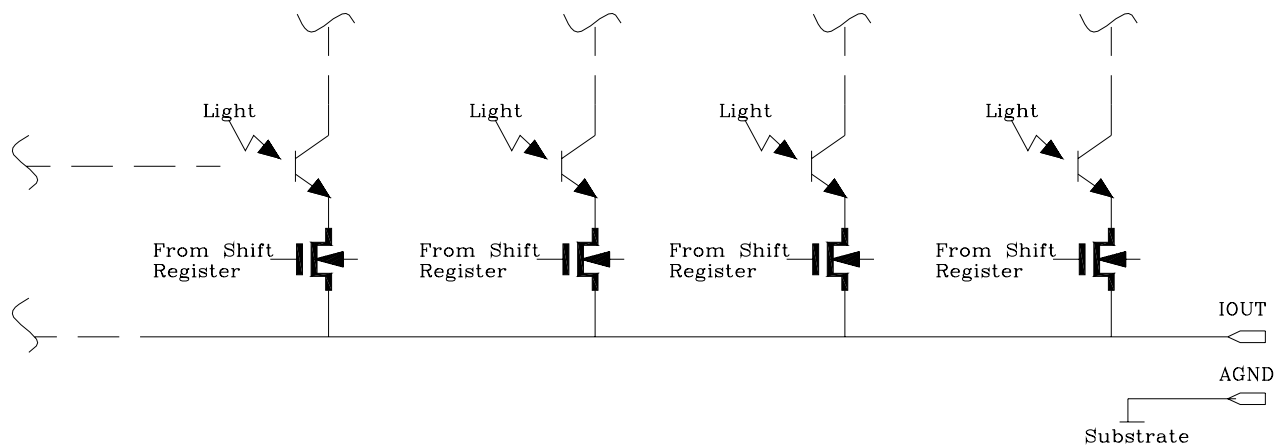
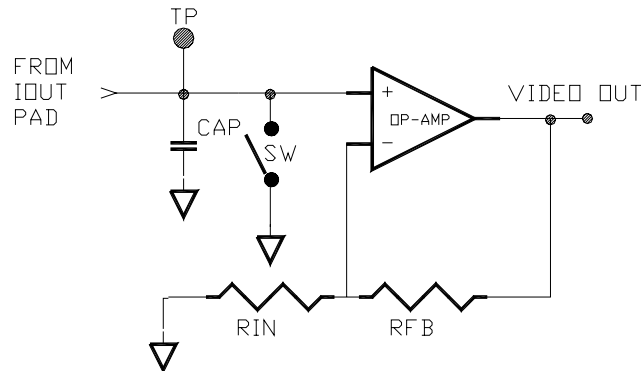
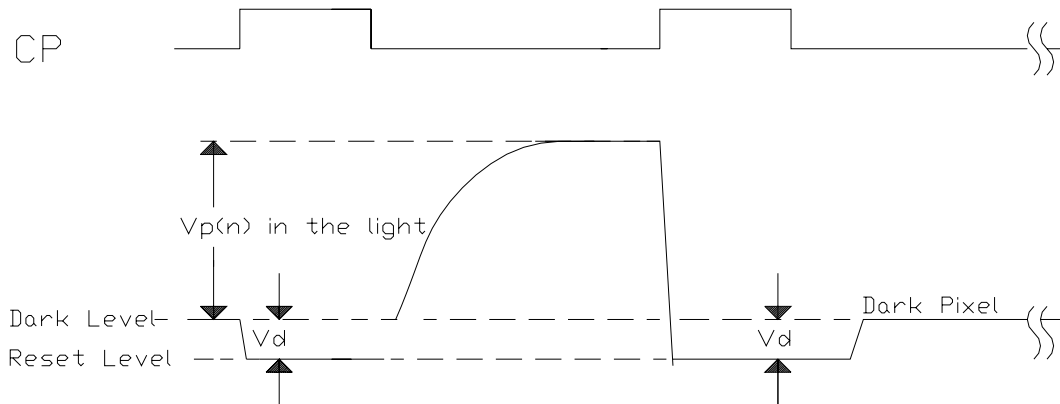
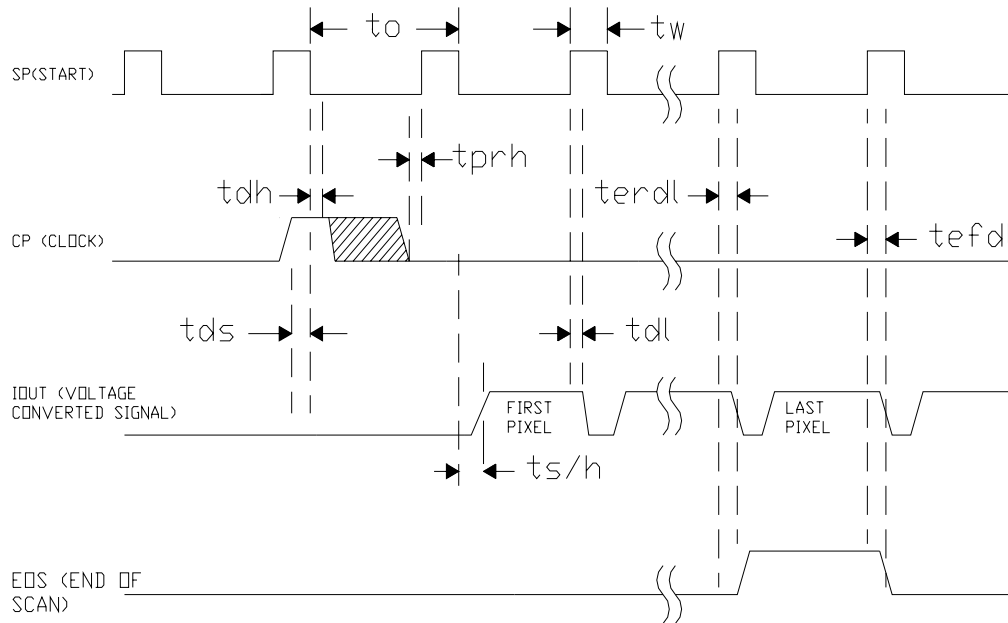

Figure 4. Video Pixel Output Structures
Figure 5. Video Output Test and Application Circuit
Figure 6. Single Pixel Video Output
Figure 8. Timing Diagram Of The PI3033B Sensor
Where  $V_p(n)$  is the amplitude of nth pixel in the sensor chip and  $N_{pixels}$  is the total number of pixels in sensor chip.  $V_{pavg}$  is converted from impulse current video pixel into a voltage output. See Figure 4, Video Pixel Output in section Output Circuit Of The Image Sensor and Figure 5, Video Output Test and Application Circuit in section Signal Conversion Circuit on page 6 and 7.
Exp = LP x Tint, where LP is light power (Yellow-Green) and Tint is as defined above. See Figure 6, Vpavg Output versus Light Exposure in section Video Output Response Under Exposure, on page 8.
The video signal from each photo-site is connected to a common video line on the sensor. Each photo-site is composed of a phototransistor with a series MOS switch connecting its emitter to a common video line. The video line is connected to the pad labeled IOUT. The photo-sensing element is the base of the phototransistor where it detects and converts the light energy to proportional charges and stores them in its base capacitance. When the MOS switch is activated, the emitter is connected to the video line and acts as source follower, producing an impulse current proportional to the stored charges in the base. This current is a discrete-time analog signal output called the video pixel. Accordingly the video pixel is proportional to the light energy impinging in the neighborhood of its photo-sites. Figure 4, Video Pixel Output Structures, show the output structure of four photo-sites out of 64. The multiplexing MOS switch in each photo-site terminates into the output pad, IOUT, through a common video line. The shift register sequentially accesses each photo-site by activating the MOS switch. As they are accessed, a sequence of video pixels is sent to the IOUT where they are processed with an external signal conversion circuit.
Figure 5, Video Output Test and Application Circuit shows a simple circuit that provides the cleanest technique in processing the video output. It integrates all the currents from each pixel element onto a capacitor, CAP. Then the CAP is reset to zero volts by activating the shunt switch, SW, and connecting the video line to ground prior to accessing the following pixel element. Simultaneous to SW activation, the pixel element storage is, also, reset to the dark level, hence initialized for the new pixel integration process. Since this process sums the switch edges and signal current pulses onto the CAP, it minimizes the switching patterns on the video pixels. The summed charges stored in the CAP, produces a pixel voltage with amplitude proportional to the charge from the current pulse. Since switching energies are high frequencies components, they tend to integrate to a 0 value and the remainder adds a constant value to the dark level. The signal pixels  $V_p(n)$  is referenced to the Dark Level as it is seen in Figure 6, Single Pixel Output Voltage that depicts the typical pixel waveform.
- (1) Applies to both CP and SP.
- (2) The output is a current that is proportional to the charges, which are integrated on the phototransistor's base via photon-to-electron conversion. For its conversion to voltage pixels see Figure 4, Video Pixel Output in section Output Circuit Of The Image Sensor.
- (3) Although the clock frequency, Fclk, will operate the device at less than 100KHz, it is recommended that the device be operated above 500KHz to avoid complication of leakage current build-up. In applications using long CIS module length, such as an array of image sensor > 27, increases the readout time, i.e., increases Tint, hence, leakage current build-up occurs.
- (4) The clock duty cycle typically is normally set to 25 %. However, it can operate with duty cycle as large as 50 %, which will allow more reset time at the expense of video pixel readout time.
The timing relationships of the video output voltage and its two input clocks the start pulse, SP, and the shift register clock, CP, along with the shift register EOS output clock are shown in Figure 8, Timing Diagram Of The PI3033B Sensor. The switch timing specification for the symbols on the timing diagram is given in Table 5, Timing Symbol's Definition below the timing diagram. The digital clocks' levels are +5 Volts CMOS compatible. The video, IOOUT, is specified in Figure 4, Video Pixel Output in section Output Circuit Of The Image Sensor.
The difference is in the arrangement of the two shunt switches, U2D, and U2A. U2D is a counterpart to SW in Figure 5. Video Output Test and Application Circuit. A DC restoration capacitor, C20, with value of 100pf added between the shunts switch. The first, U2D, clamps the video line to ground to reset the image sensors. Simultaneously the second, U2A, clamps the node between C20 and amplifier input to a output reference bias voltage that is on the node between R4 and R9. These resistors are voltage divider that sets the DC operating level of the amplifier's output by applying same bias voltage to both inputs of the amplifier